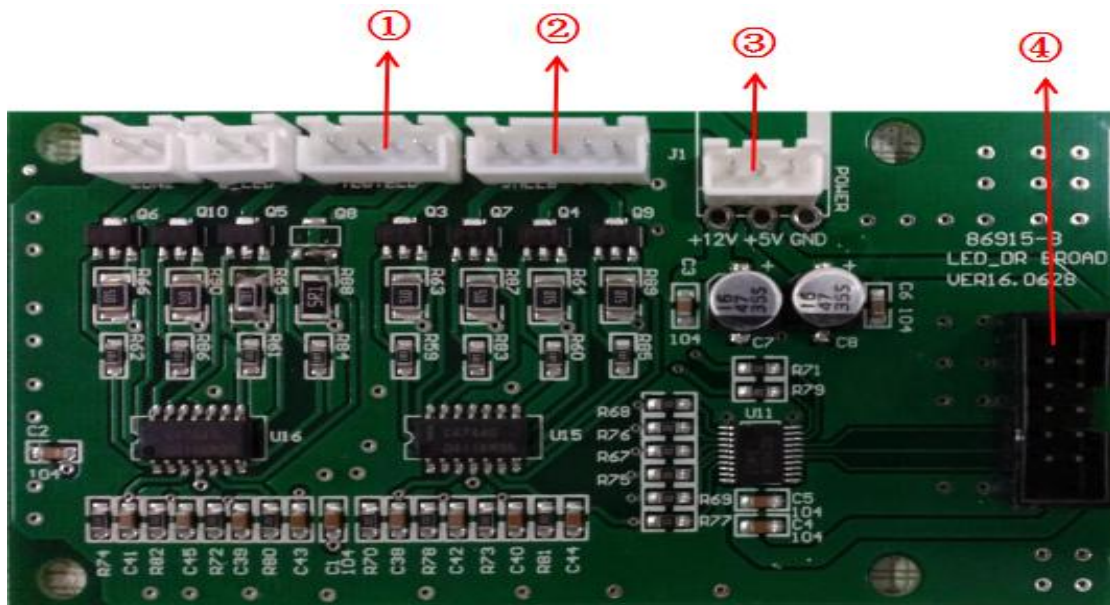

Fig 7.3-2
- 4.A total of 4 LED driver board cable,Each socket wiring as shown Fig 7.3-2. When replacing the installation, pay attention to the connecting position of the connecting wire.Please enter the number as shown in Table 3.